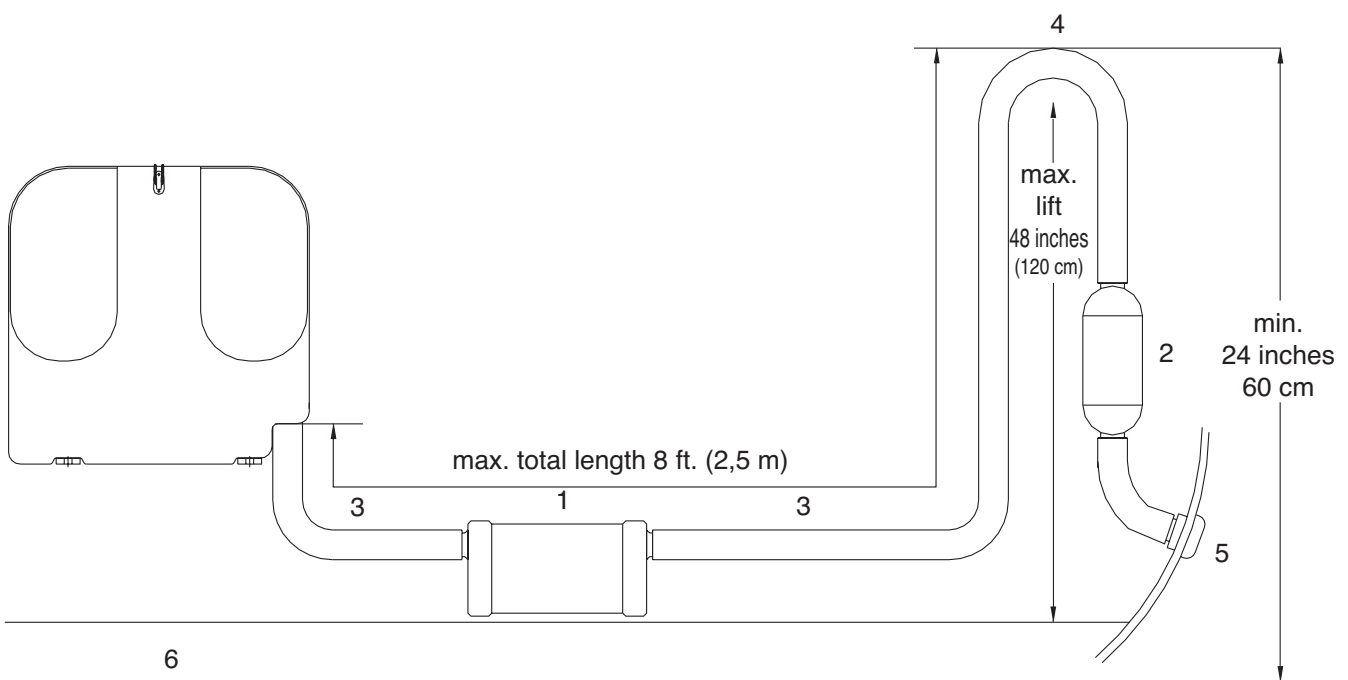

Fig. 7.
vertical and situated preferable along the ship's keel center line. It is recommended to install an extra muffler fig.7 (2) close to the through-hull fitting.